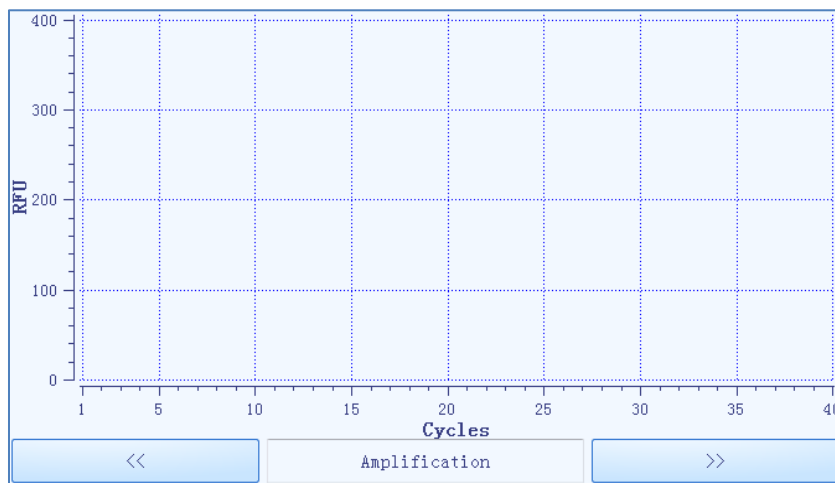

Figure E-5.1. Run Monitoring Diagram - Real-time Amplification Curve
- If user select the **Fluorescence** option in the run monitoring option bar, user can press or keys below the run monitoring diagram to choose the monitor content, which can be the real-time **Amplification** curve, **Melting** curve or fluorescence **Heat Map** of the current experiment, as shown in figure E-5.1.
- a. The run monitoring diagram will display the real-time **Amplification** curve of the current experiment by default, as shown in figure E-5.1.